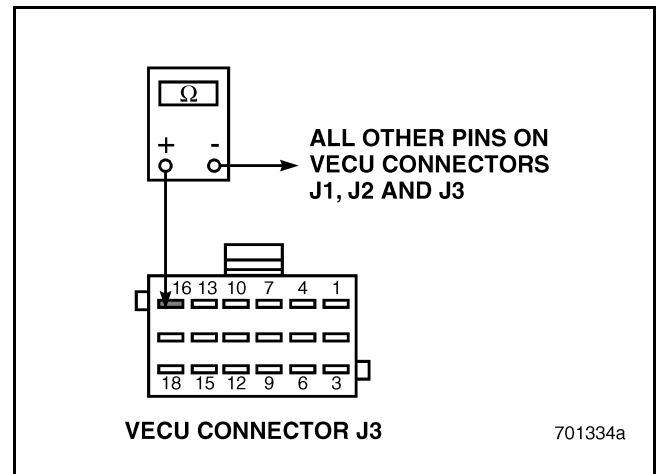

Figure 716
3. Check for continuity between VECU connector J3 pin 16 and all other pins on VECU connectors J1, J2 and J3 (see Figure 716).